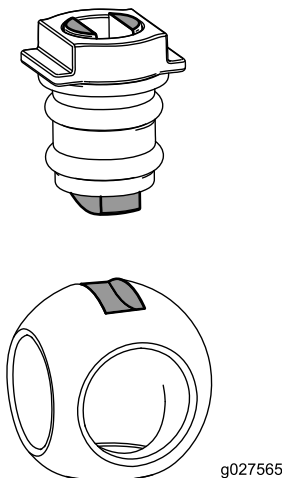

Figure 120
6. Insert the ball into the valve body (Figure 120).
Note: The valve stem should fit inside the ball-drive slot. If the valve stem does not fit, adjust the position of the ball (Figure 120).